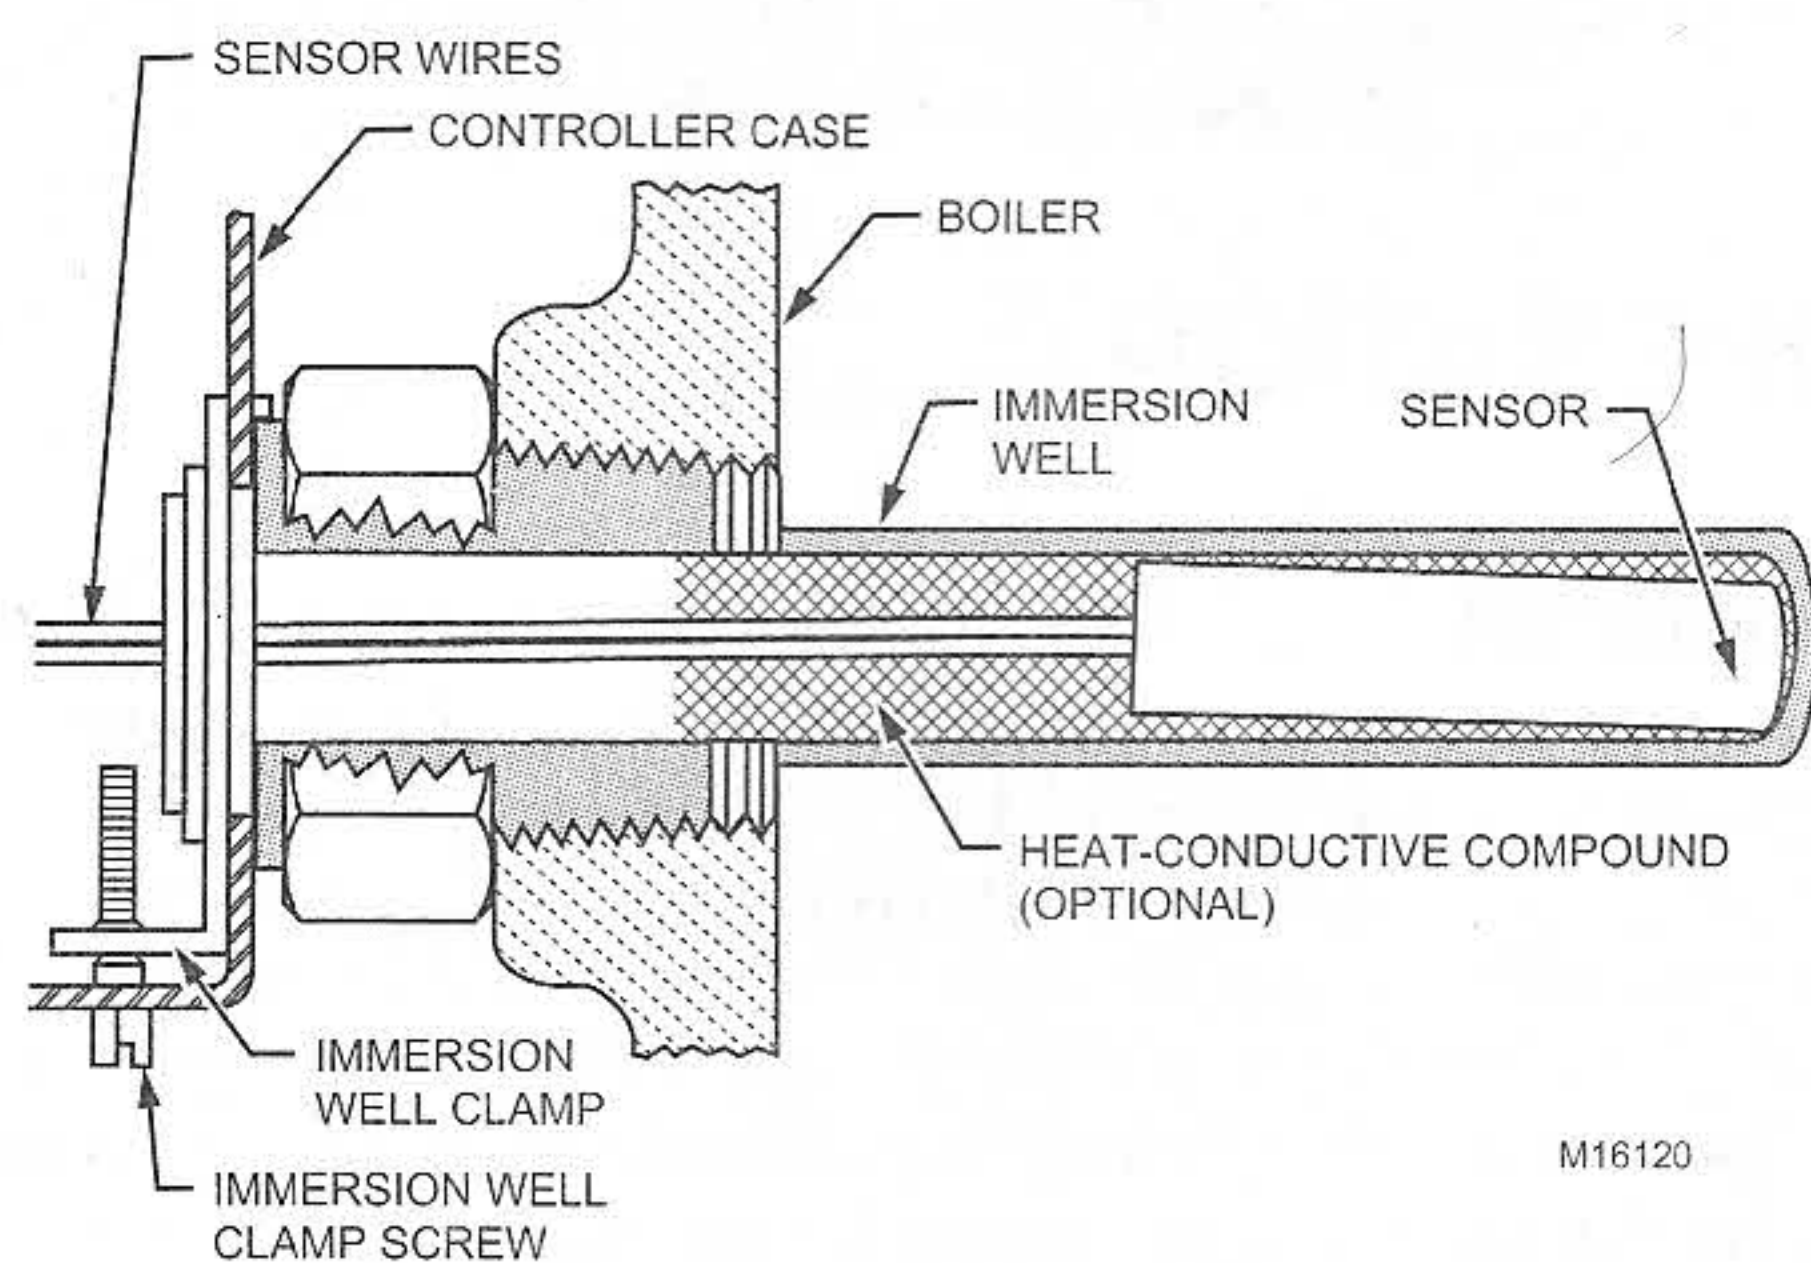

Fig. 2. Position of sensor in immersion well.
If the well is not a snug fit on the sensor, use the heat-conductive compound (furnished with TRADELINE[®] models) as follows: Fold the plastic bag of compound lengthwise and twist it gently. Then snip off end of bag and work the open end of the bag all the way into the well. Slowly pull out the bag while squeezing it firmly to distribute compound evenly in the well. Bend the wiring, if necessary, to hold the sensor against the bottom of the well and to hold outer end of the sensor in firm contact with the side of the well. See Fig. 2. Wipe excess compound from the outer end of the well.
3. Insert the sensor into the well as shown in Fig. 2 or 3. (See Replacement Sensor Installation section for details.)